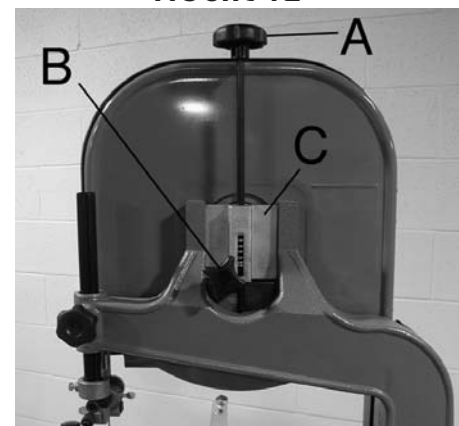

FIGURE 13
1. The slide bracket (C-Fig.13) allows you to increase or decrease the blade tension by turning the tension knob (A). With the blade on the wheels, turn the tension knob (A) raising or lowering the blade wheel until the desired blade tension is obtained. NOTE: Too much tension or strain could break the blade.
3. If the blade slides toward the front edge, slightly turn knob (B) clockwise. This tilts the top blade wheel towards the back of the band saw and draws the blade towards the center of the wheel protector.
4. If the blade slides towards the back edge, slightly turn the knob (B) counterclockwise.